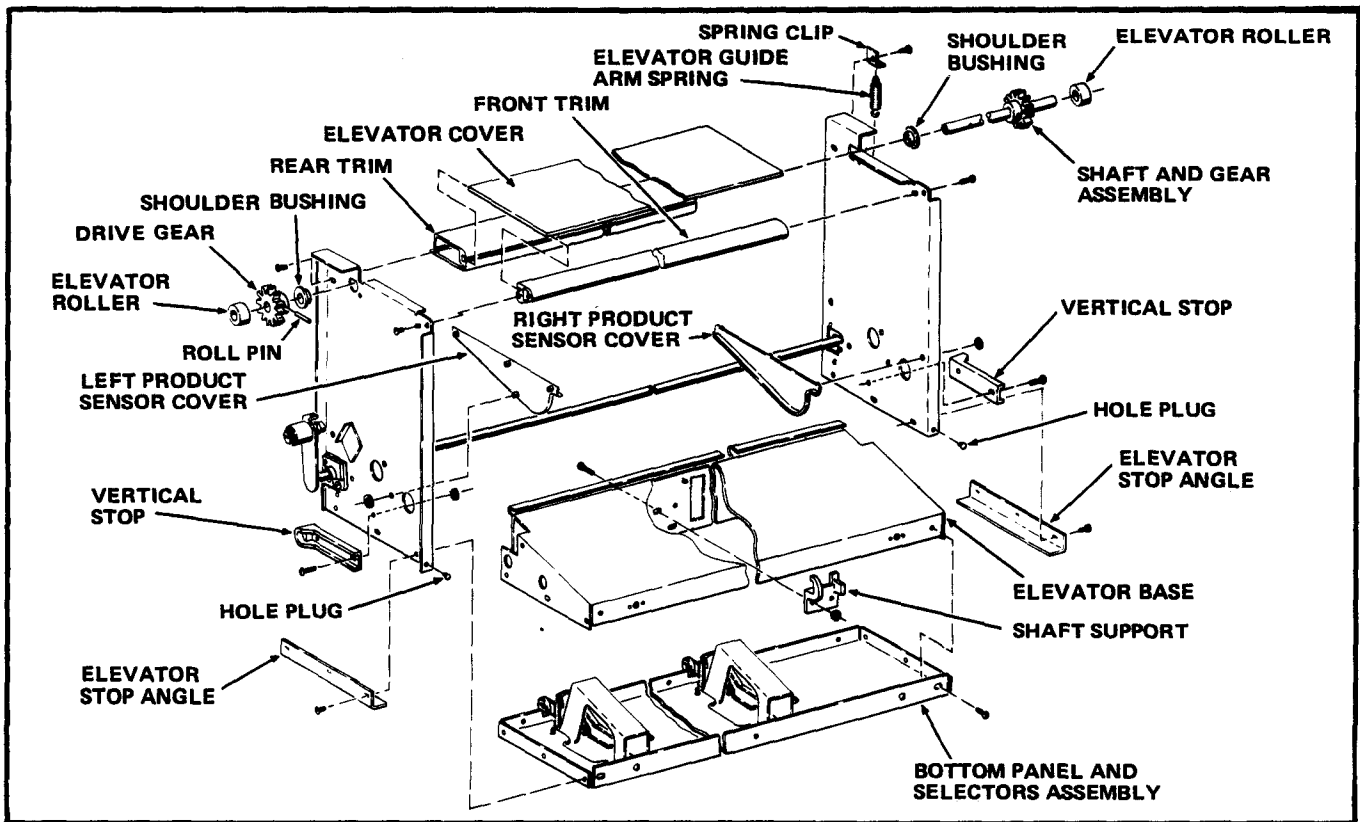

FIGURE 2
6. Disconnect the Elevator Guide Arm Spring from the Spring Clip and the Right Elevator Guide Arm and remove from the Elevator Assembly. See Figure 2.
7. Remove six attaching Screws and the two Elevator Stop Angles from the Left and Right Elevator Sidewalls. See Figure 2.
8. Remove thirteen attaching Screws and the Bottom Panel and Selectors Assembly from the Elevator Assembly. See Figure 2.
9. Remove two attaching Screws and Nuts and the Shaft Support from the Elevator Base. See Figure 2.
10. Remove four attaching Screw and Nuts and the two Vertical Stops from the Left and Right Elevator Sidewalls. See Figure 2.
11. Remove eight Push-on Retainers and the Left and Right Product Sensor Covers from the Elevator Sidewalls. See Figure 2.
12. Remove two Screws attaching the Elevator Base to the Elevator Sidewalls and pull the Base free of the Arm and Shaft Assembly. See Figure 2.
13. Remove four attaching Screws and the Front Trim from the Elevator Sidewalls. See Figure 2.
14. Remove the Elevator Cover. See Figure 2.
15. Remove one attaching Screw and the Spring Clip from the Right Elevator Sidewall. See Figure 2.
16. Remove three attaching Screws and the Rear Trim from the Elevator Sidewalls. See Figure 2.
17. Remove the two plastic Hole Plugs from the holes in the lower front of the Elevator Sidewalls. See Figure 2.